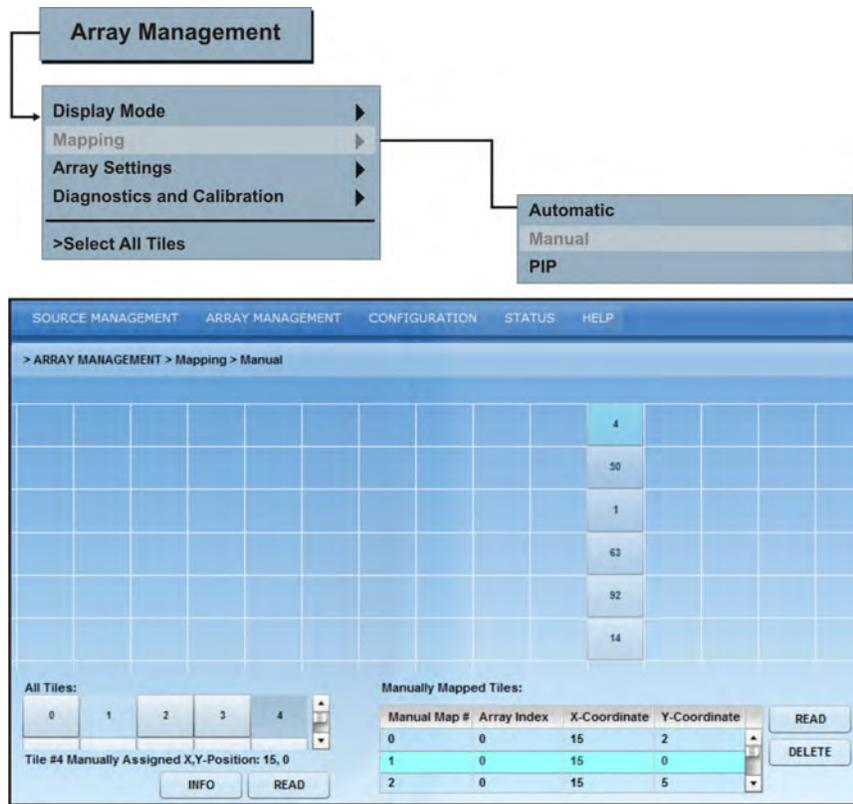

Figure 3-22 Manual Mapping
2. From the **Array Management** drop-down menu select **Mapping>Manual** (**Figure 3-22**).
6. Click and drag the selected tile into the main grid (**Figure 3-22**).